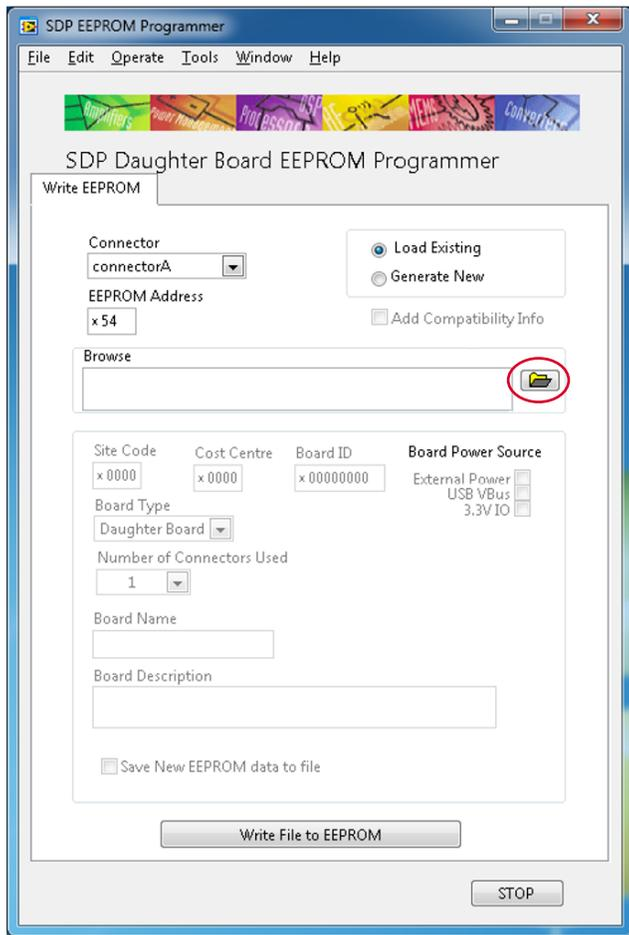
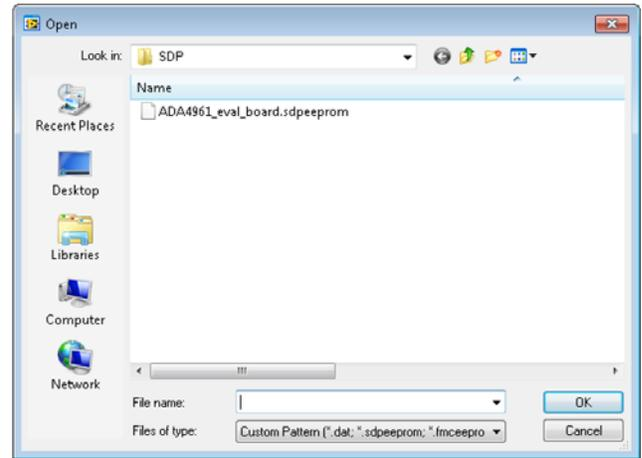
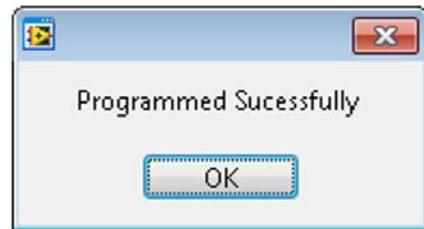

Figure 3. SDP EEPROM Programmer GUI
Figure 4. Selection Window for EEPROM Configuration File
Figure 5. EEPROM Programmed
2. Run the SDP EEPROM Programmer. The SDP EEPROM Programmer GUI opens, as shown in Figure 3.
3. Enter 0x54 for the EEPROM address, click **Load Existing**, click the **Select Folder** button (circled in red in Figure 3), and then a selection window opens, as shown in Figure 4. You may need to navigate to the directory where the EEPROM configuration file is stored. Open the **ADA4961_eval_board.sdpeeprom** file, and then click **OK**.
4. After Step 3 is completed, the SDP EEPROM Programmer GUI window opens again, as shown in Figure 3. Click **Write File to EEPROM**, and a window opens indicating that the EEPROM has been programmed, as shown in Figure 5.